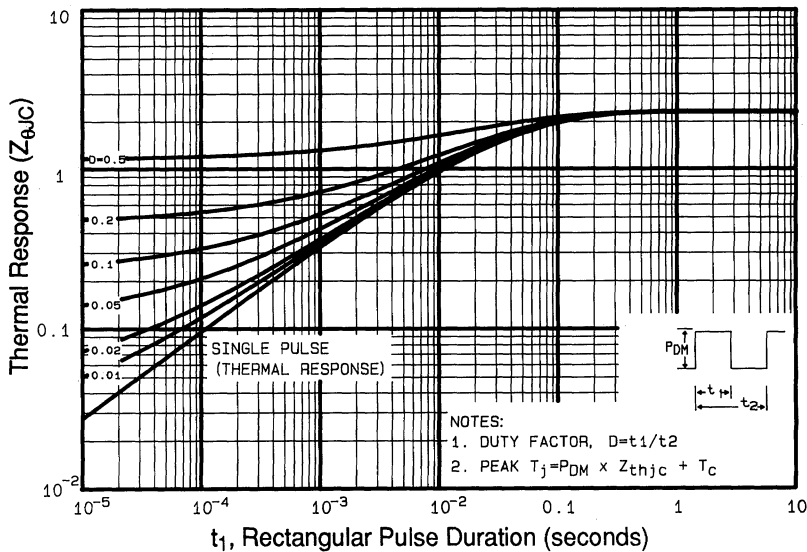

Fig 11. Maximum Effective Transient Thermal Impedance, Junction-to-Case
- ① Repetitive rating; pulse width limited by max. junction temperature. (See fig. 11)
- ② $V_{DD} = 50V$, starting $T_J = 25^\circ\text{C}$, $L = 117\text{mH}$, $R_G = 25\Omega$, $I_{AS} = 1.7A$. (See Figure 11)
- ③ $I_{SD} \leq 1.7A$, $di/dt \leq 70A/\mu s$, $V_{DD} \leq V_{(BR)DSS}$, $T_J \leq 150^\circ\text{C}$
- ④ Pulse width $\leq 300\mu s$; duty cycle $\leq 2\%$.
- ⑤ Uses IRFBF20 data and test conditions